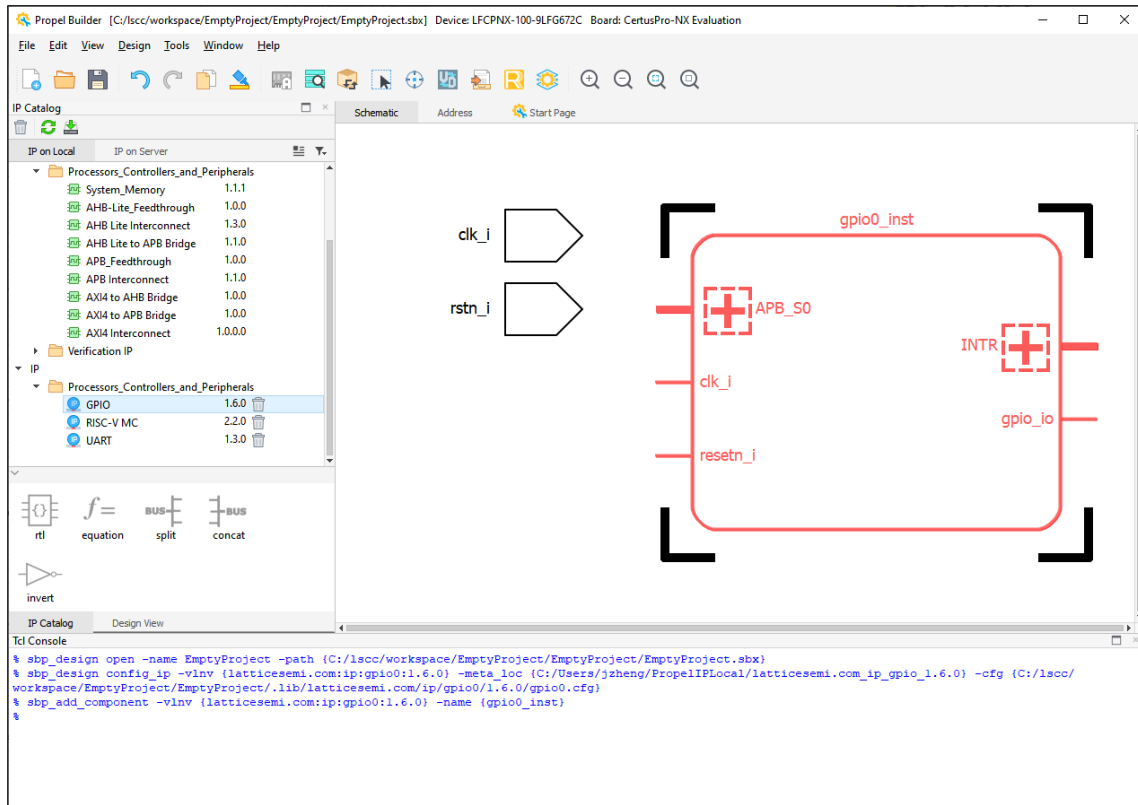

Figure 2.49. Propeller Builder Schematic View Shows the Module Instance
9. Click **OK**. The schematic block for the module appears in the **Schematic** view (Figure 2.49).